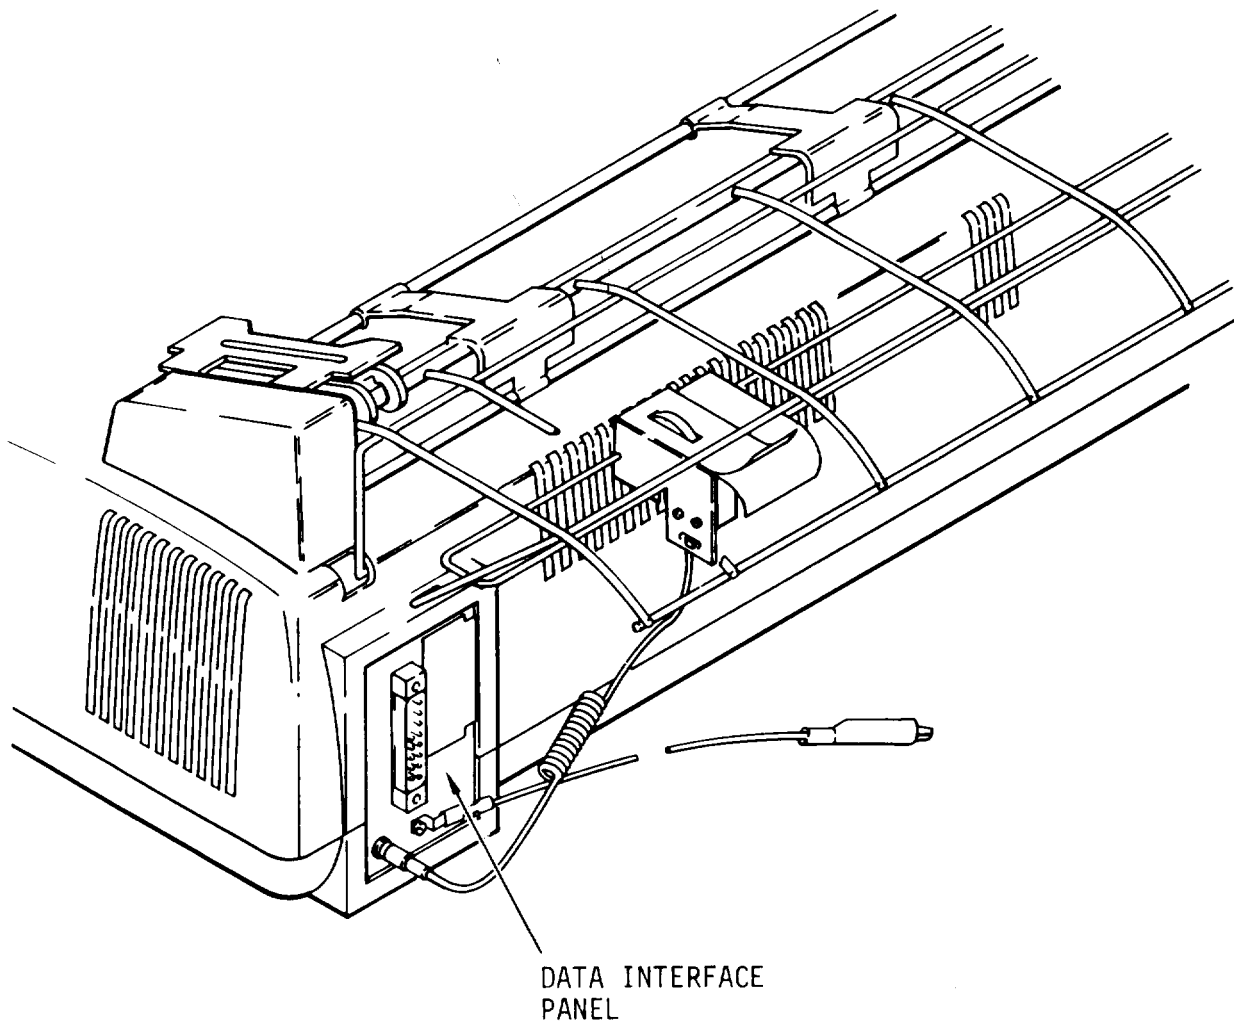

Figure 1-7. Data Interface Panel
g. Data Interface Panel. The data interface panel (fig. 1-7) is a metal plate containing pin connectors to which RS-232C data set cable is attached.